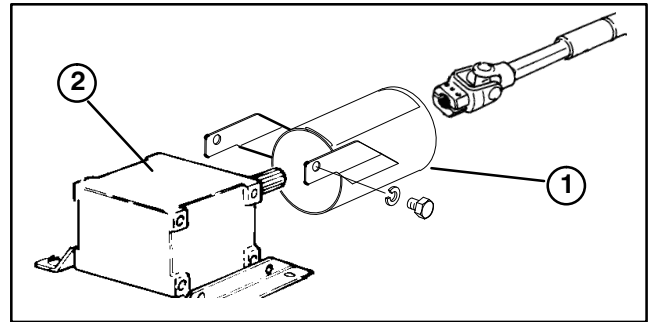

Figure 7
3. Remove (2) capscrews and lockwashers securing PTO guard mounting brackets to gearbox (Fig. 7). Retain fasteners for re-installation.
4. Slide PTO shaft guard onto PTO shaft, positioning guard as shown in figure 7.